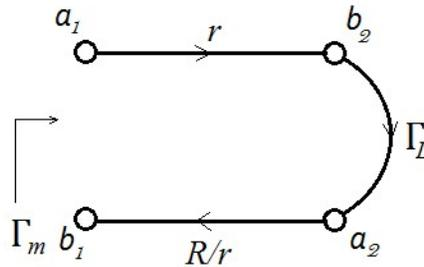

Figure 2: Coupler principle
As we all know it is impossible to make perfect test set equipment for measurements. Errors due to many sources will be introduced into our measurement. Fortunately, many of them are deterministic, meaning they can be predicted and controlled. Error corrections are introduced to eliminate these deterministic noise out of our measurement. The simplest error correction model is depicted in Figure 2 where only *Reflection Tracking (R)* error is taken into account. It is the summation of errors caused by variations in magnitude and phase flatness versus frequency between the test and the reference signal paths. They are usually called tracking (frequency response) errors[1]. The equation relating the measured reflection coefficient Γ_m with the actual one Γ_L is, in 1-term error correction model, given by